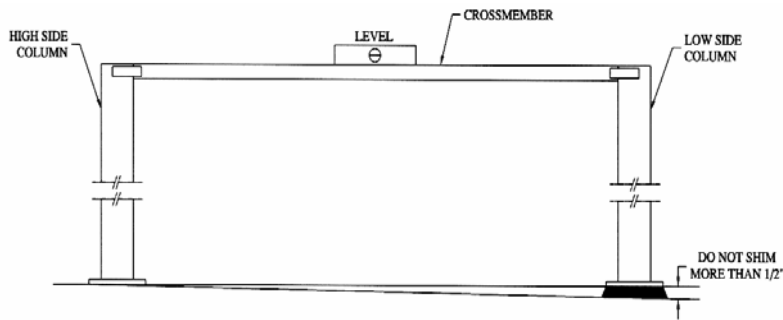
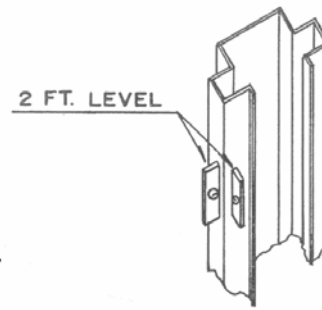
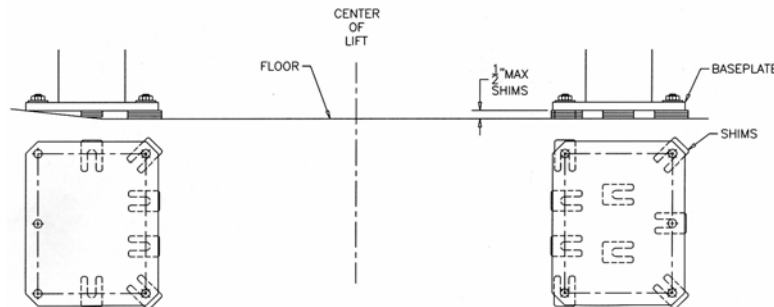

Figure 18
Figure 19
Figure 20 - Shims
2. Using a 4ft. level on top of the crossmember, determine which column is higher. Refer to **Figure 18**.
2. Using a 2ft. level on the sides of the high column, ensure that the column is level in the vertical position (**Figure 19**). Use shims under the column baseplate to hold the column level. Ensure that the base plate is completely supported by shims including near the center where it does not contact the floor (**Figure 20**).
6. Reconfirm that the column is level front to rear and side to side (**Figure 19**). Add or remove shims as required.
1. Using a 4ft. level on top of the crossmember (**Figure 18**) and a 2ft. level on the low side column (**Figure 19**), shim underneath the baseplate until the crossmember and column are level. Ensure that the baseplate is completely supported by shims including near the center where it does not contact the floor (**Figure 20**).